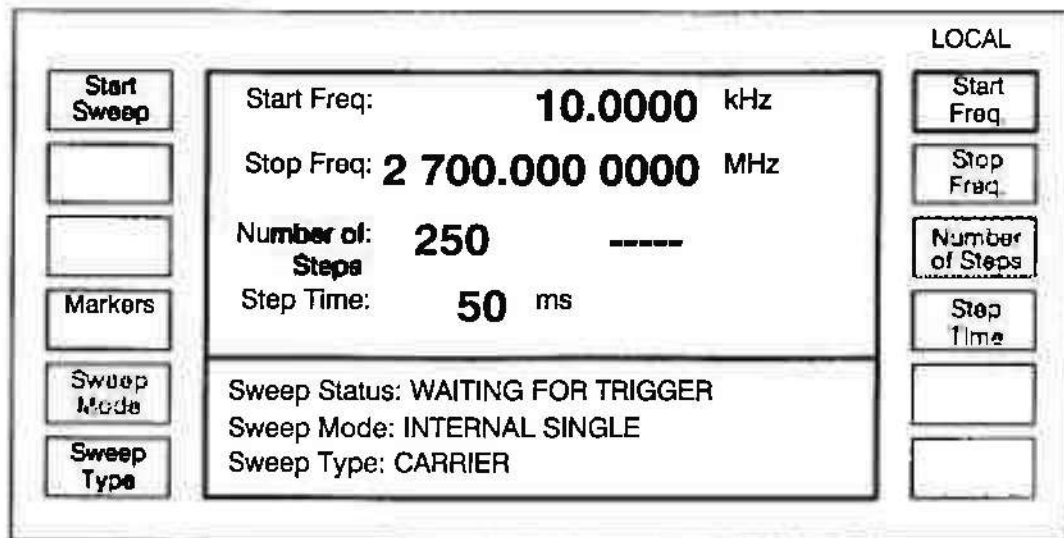

Fig. 9 Sweep parameters display
35. (1) Press the [SWEEP] hard key. The sweep parameters display, with soft key options, appears on the screen, see Fig. 9.